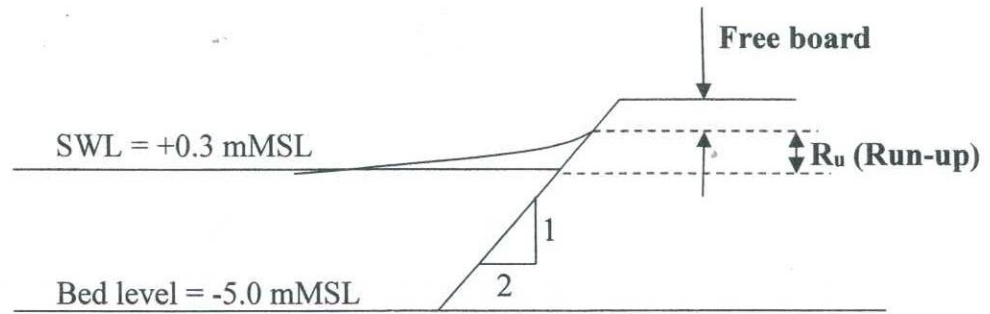

Figure Q5. Definition sketch of breakwater slope
- (c) It is required to reduce wave overtopping over the breakwater. Determine the crest level of the breakwater for 2% exceedance probability (i.e., 1 in 50 year event) providing a 0.6m freeboard for settlement and water level/wave exceedance (see Figure Q5).